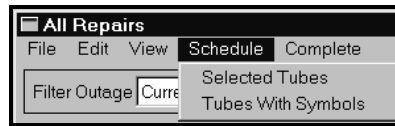

Figure 3-128. All Repairs > Schedule Menu
There are two (2) choices on the Schedule Menu shown in Figure 3-128. They are Selected Tubes and Tubes With Symbols.